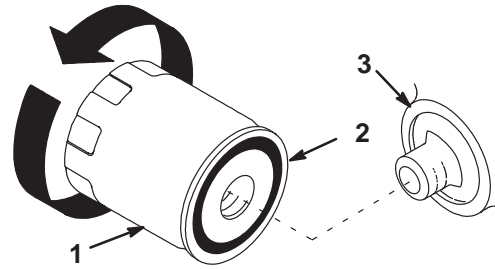

Figure 23
9. Change the oil filter, if necessary (Fig. 23).
2. Remove the old filter and wipe the filter adapter gasket surface (Fig. 23).
3. Apply a thin coat of clean oil to the rubber gasket on the replacement filter (Fig. 23).
4. Install the replacement oil filter to the filter adapter. Turn the oil filter clockwise until the rubber gasket contacts the filter adapter; then tighten the filter an additional 1/2 to 3/4 turn (Fig. 23).